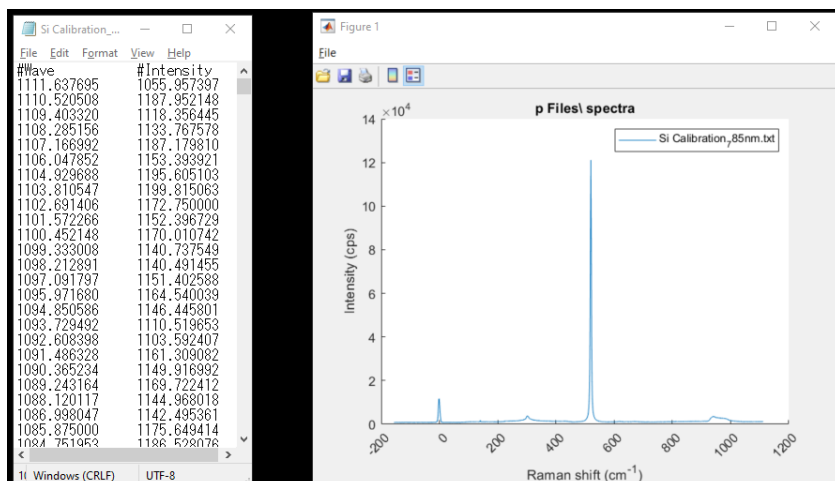

Figure 10: Calibration .txt file and spectrum.
- The calibration .txt file should contain spectrum data collected from a pure element with known peak wavenumber. An example is shown in (Fig. 10)